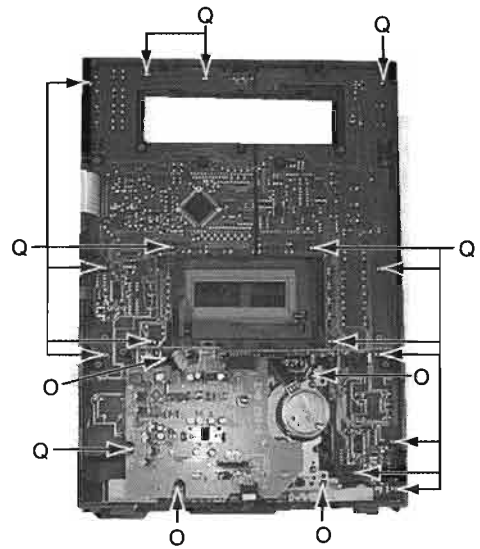

Fig 12
- 2.Remove four screws O on the cassette mechanism assembly. (See Fig.12)
- 4.Remove sixteen screws Q on the front P.C.Board. (See Fig.12)